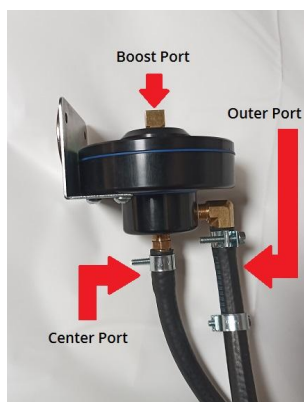
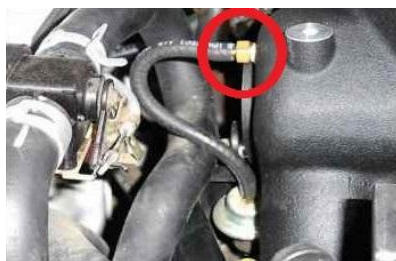

Figure 2: Hose Orientation
Figure 5: Boost Reference Source (Backside of Supercharger)
4. Next, locate the “Boost Port” (Figure 2) on the top of the FMU, and attach that hose to the factory fuel pressure regulator with the supplied “T” fitting. Please make sure the fuel pressure regulator hose is connected to the back of the supercharger, which is a vacuum and boost reference source (Figure 5). **Please note: your fuel pressure regulator hose should never connect to the throttle body or the intake tube, as those locations will not provide an adequate vacuum or boost signal.**